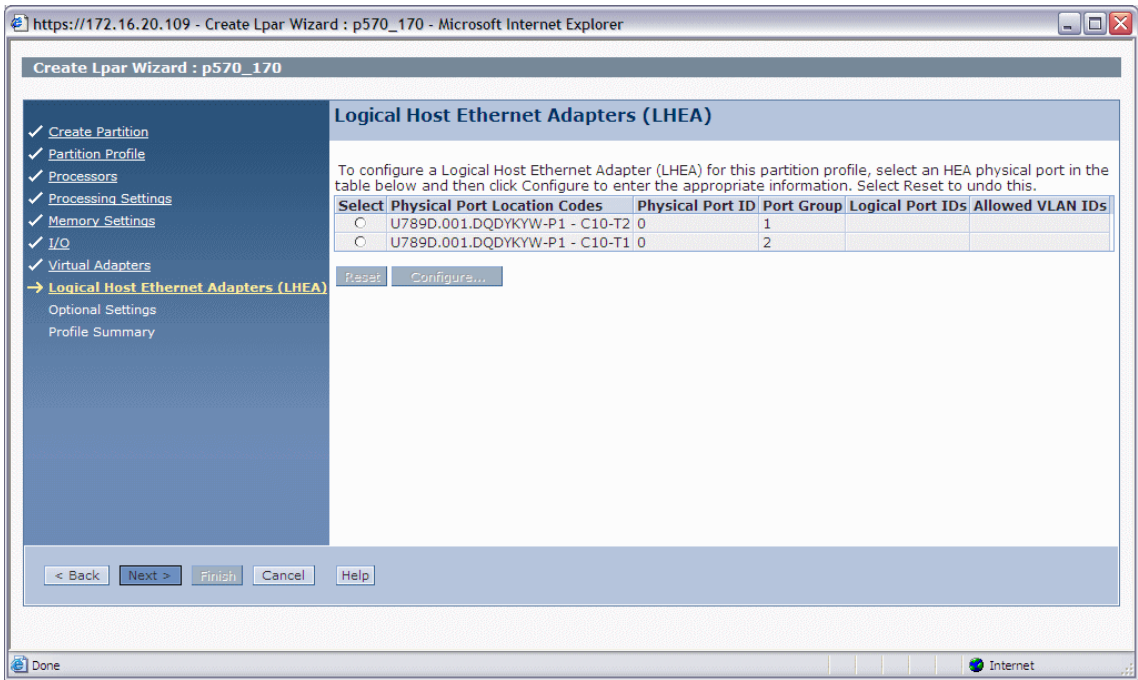

Figure 12-16 HMC Menu for creating Logical Host Ethernet Adapters
14. The Host Ethernet Adapter, HEA, is an offering on POWER6 or later systems. It replaces the integrated Ethernet ports on selected systems and can provide logical Ethernet ports directly to the client partitions without using the Virtual I/O Server (Figure 12-16). Click **Next** to continue.